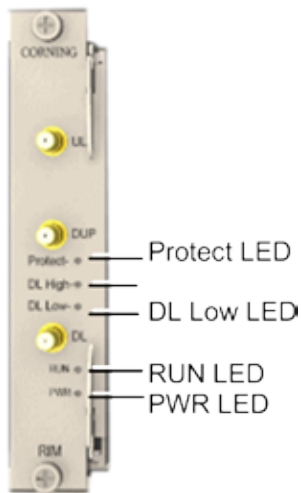
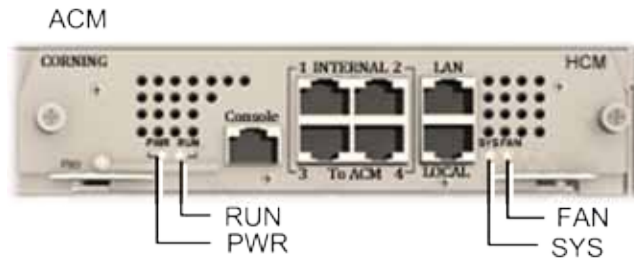

Figure 5-22. RIM LEDs
Figure 5-23. HCM/ACM LEDs
- If RF source is operational, verify that the RIM (see Figure 5-22) and HCM/ACM (see Figure 5-23) LEDs indicate normal operation according to Table 5-6: